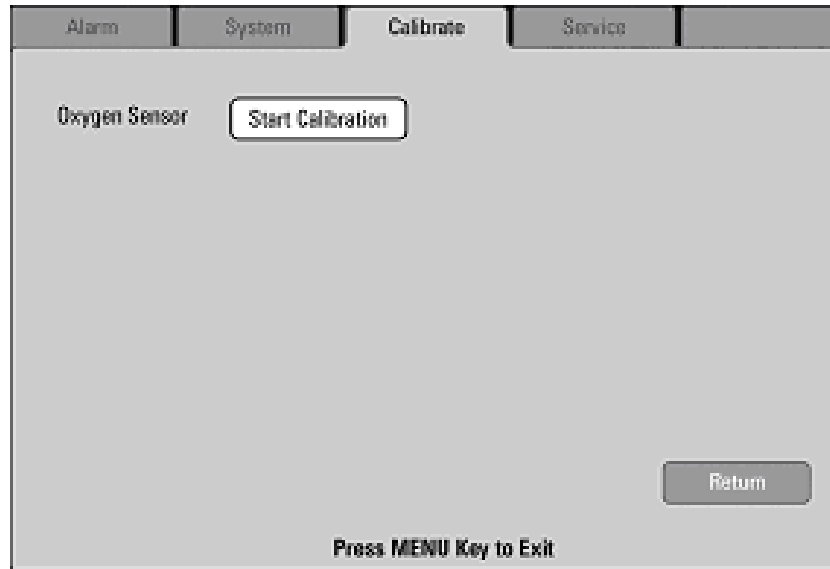

FIGURE 6-22 Calibrate Menu Tab
1. Press the **MENU** key and then use the **Navigator™ Knob** to scroll to the **Calibrate** menu tab (see FIGURE 6-22). Select the **Start Calibration** button.